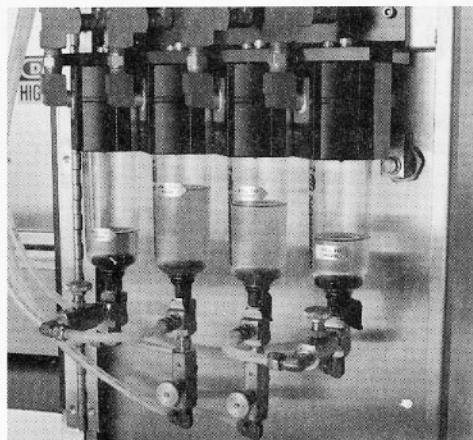

Fig. 34
If the Mineral Oil Level in Reservoir (D) is above the full line and the Oil Level in Reservoir (C) is below the full line (see fig. 34), turn Air ON and Loosen Locking Nut on Right Oil Leveling Valve. OPEN the Right Oil Leveling Valve COUNTERCLOCKWISE. The Oil Level in (D) will decrease and the Oil Level in (C) will increase. When the Oil Level in (C) reaches the full line, turn the Right Oil Leveling Valve CLOCKWISE TO STOP the flow of oil. Retighten Locking Nut on this Valve.